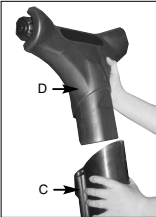

Fig. 1B
2. Insert speed cleaner head (D) to the tube (C). (Fig. 1B)